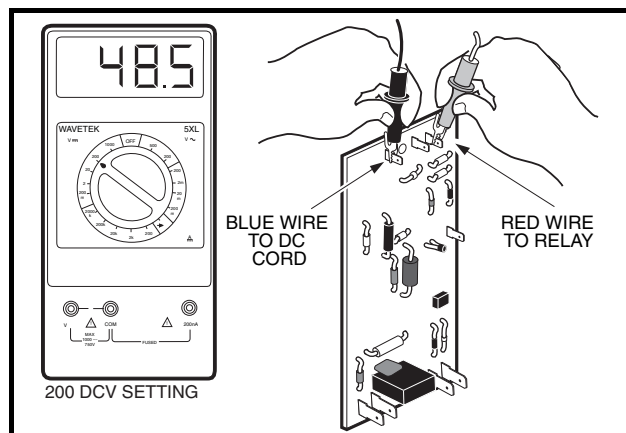

Figure 4-10 DC Circuit Test
2. Place black (–) probe of multimeter on terminal with blue DC cord wire and red (+) probe to terminal with red relay wire (Figure 4-10, Page 4-14).